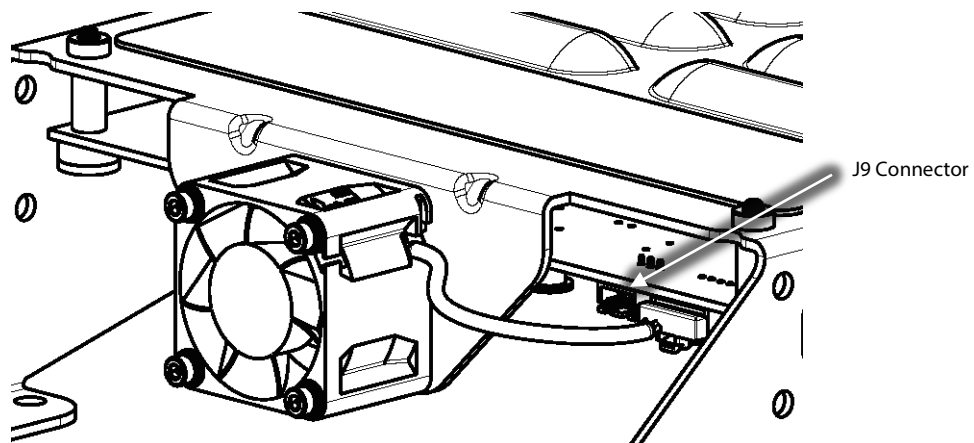

Figure 2 – Soft Start J9 Connector
8. For F Series and later compressors, remove the Soft Start Temperature Harness. Refer to Figure 2 (Soft Start J9 Connector).